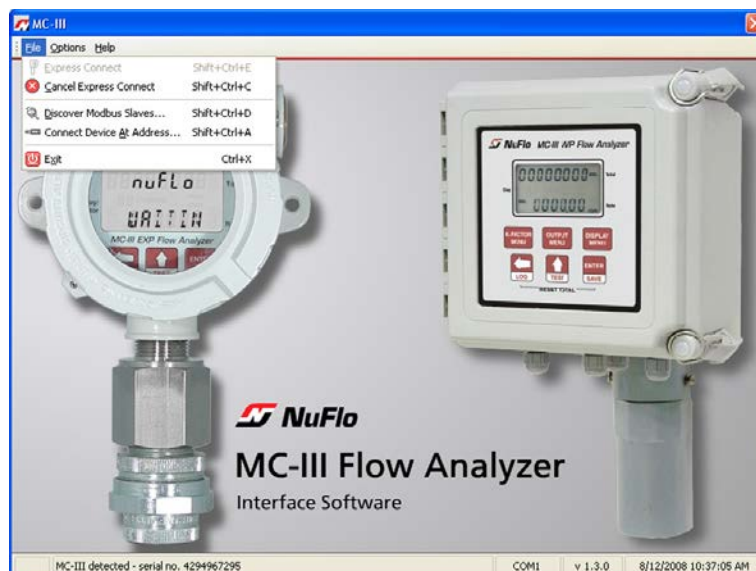

Figure 4.6—Cancel Express Connect option
To temporarily cancel the “express connect” function without exiting the software program, click in the LCD area of the device on the Welcome screen or choose File>Cancel Express Connect from the menu bar (Figure 4.6, page 45). The software will stop all attempts to connect to the device. The “express connect” function will be restored when the user exits the program and attempts to re-open the software.
1. From the Welcome screen, choose File>Cancel Express Connect (*Figure 4.6, page 45*).